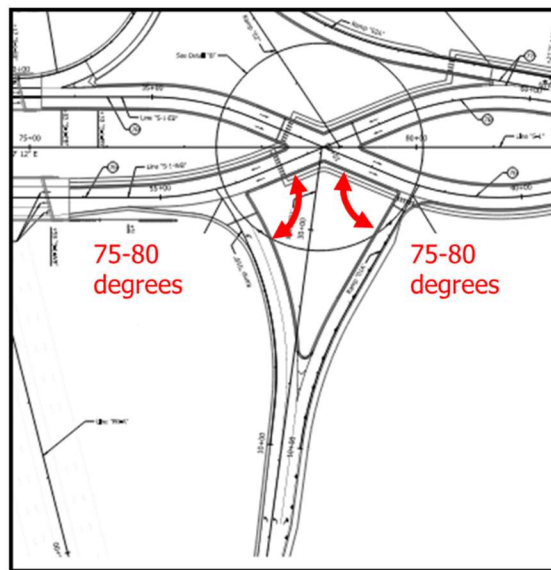

Figure 1. Ramp-crossroad approach angle geometry.
- **Ramp-Crossroad Approach Angle (See Figure 1)**